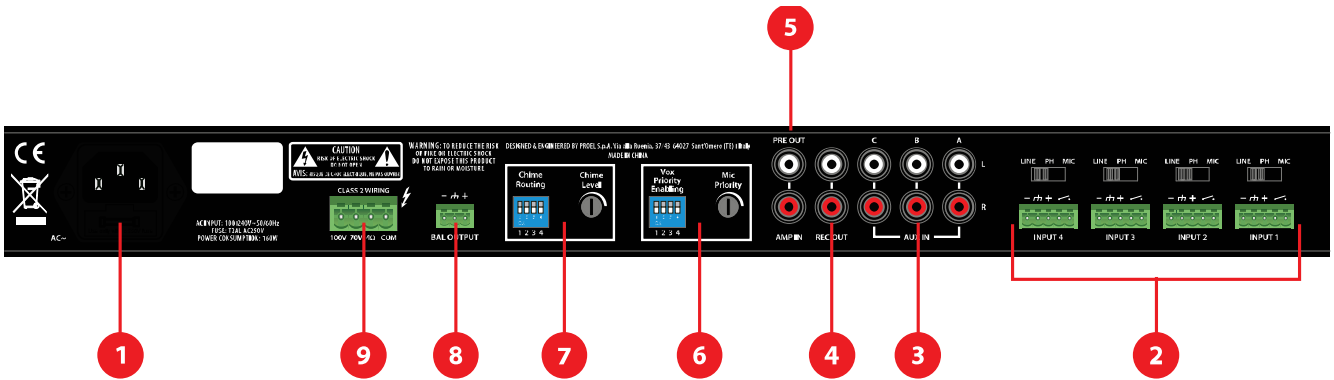

Fig. 2
Pressing the A/B/C buttons respectively enables the AUX A, B and C inputs (**fig.2, ref.4**). The enabled input is shown by the lit led.
Each input has a “Dry Contact” that has the functions “Chime Activation” and “Force Input Muting”. These functions can also be activated simultaneously and are subjected to the (ON – OFF) position of the dip switch (**fig.2, ref.6 e 7**):
The amplifier will play an alert sound from the loudspeakers line when the contact is closed (**fig.3 ref.C**) with the relative dip-switch PIN ON (**fig.2 rif.7**).
The control forces the muting of AUX inputs and other inputs (**fig.2, ref.2**) with the relative VOX PIN (**fig.2, ref.6**) OFF when the contact is closed (**fig.3 ref.C**). Inputs will remain mute while the dry contact remains closed. This function is particularly useful with very weak audio signals, which may cause constant connections/disconnections of the VOX function, resulting in alternating the signal output.
*Each INPUT 1 ÷ INPUT 4 has a VOX function that can be switched on and off using the PIN (**fig.2, ref.6**): while the VOX circuit of one of the channels with VOX ON (enabled) detects the presence of an audio signal on the relative input (**fig.2, ref.2**), the AUX channels (**fig.2, ref.3**) and the channels with VOX OFF (disabled) will be muted, while all the channels with VOX ON will be mixed in the output.*
Each INPUT 1 ÷ INPUT 4 has a VOX function that can be switched on and off using the relative PIN (**Vox Priority Enabling**): when the VOX circuit of one of the channels with VOX **ON** (enabled) detects the presence of an audio signal on the relative input (**fig.2, ref.2**), the AUX channels (**fig.2, ref.3**) and the channels with VOX **OFF** (disabled) will be muted, while all the channels with VOX **ON** will be mixed in the output.
Connect the constant impedance line (4Ω) between the “COM” and “ 4Ω ” terminals (**Fig. 2, Ref. 4**).
Connect the constant voltage line (100V or 70V) between the “COM” and “100V” (or “70V”) terminals (**Fig. 2, Ref. 4**).